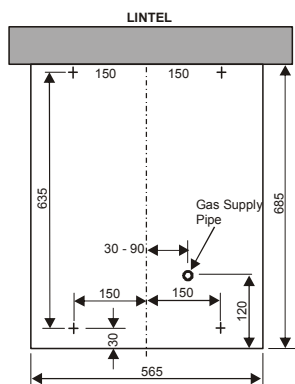

Figure 64
1. Using **Figure 64**, mark out and create the appropriate opening to accommodate the Freedom Surround.
3. With reference to **Figure 64**, mark out, drill, plug and fit the four vine eyes.